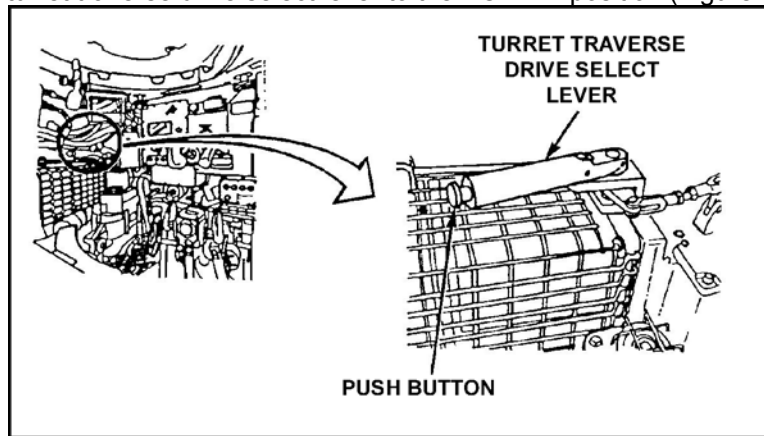

Figure 1. Turret traverse drive select lever.
- b. Move the turret traverse drive select lever to the POWER position (Figure 1).